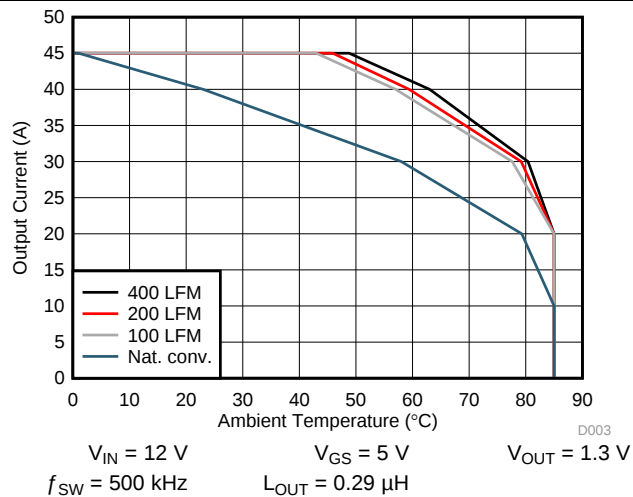

图 3. Safe Operating Area (SOA) – Thermal Airflow Measurement PCB Vertical Mount
$T_J = 125^\circ\text{C}$, unless stated otherwise. The Typical Power Block System Characteristic curves 图 3, , and 图 4 are based on measurements made on a PCB design with dimensions of 4" (W) $\times$ 3.5" (L) $\times$ 0.062" (H) and 6 copper layers of 1-oz. copper thickness. See Application and Implementation for detailed explanation.
The SOA curves in the CSD87355Q5D data sheet provides guidance on the temperature boundaries within an operating system by incorporating the thermal resistance and system power loss. 图 3 to 图 4 outline the temperature and airflow conditions required for a given load current. The area under the curve dictates the safe operating area. All the curves are based on measurements made on a PCB design with dimensions of 4" (W) × 3.5" (L) × 0.062" (T) and 6 copper layers of 1-oz. copper thickness.